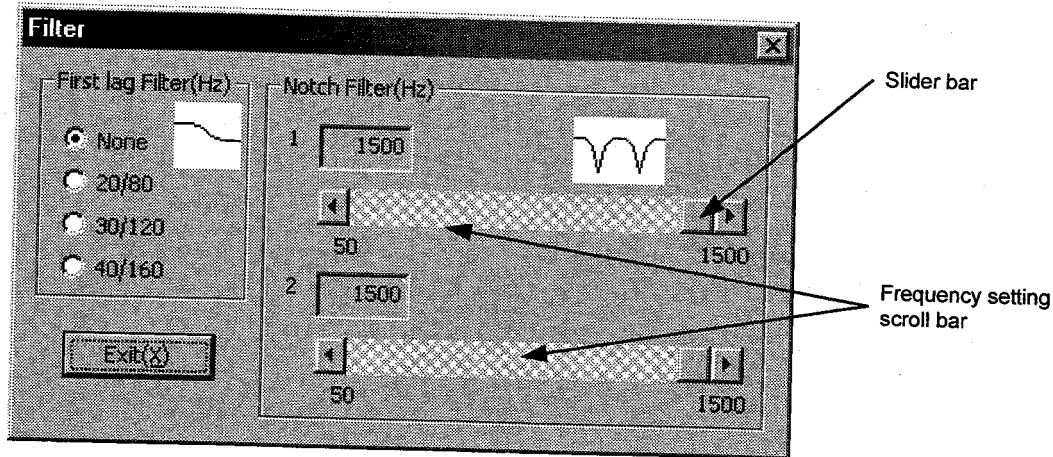

Figure 7.17 "Filter" dialog box
(3) Filter setting
Click "*Filter (F)*" under "Servo Tuning" to display the "Filter" dialog box (see Figure 7.17). The filter setting is divided into two sections, a first order delay filter setting and a notch filter setting.